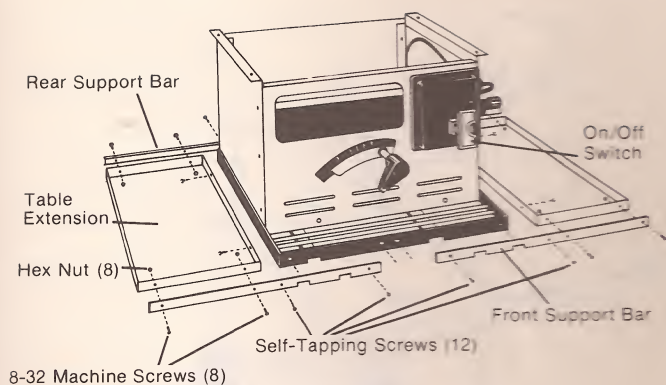

Figure 2
- I. **INSTALLATION OF TABLE EXTENSIONS (Figure 2)** shows the operations you will be performing in this section. (Familiarize yourself with figure 2 before you begin.)